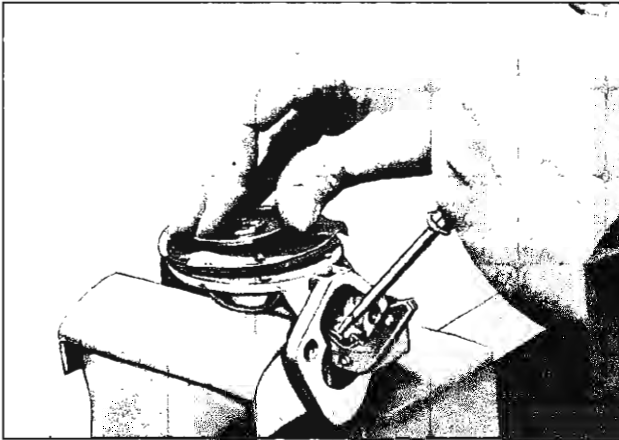

Fig. 97—Raising Fuel Link
4. Raise the fuel pump link with a screwdriver (fig. 97). Unhook the diaphragm from the link by press-
3. Raise the pump lever with a screwdriver (fig. 97), install the diaphragm push rod and hook over the end of the lever.